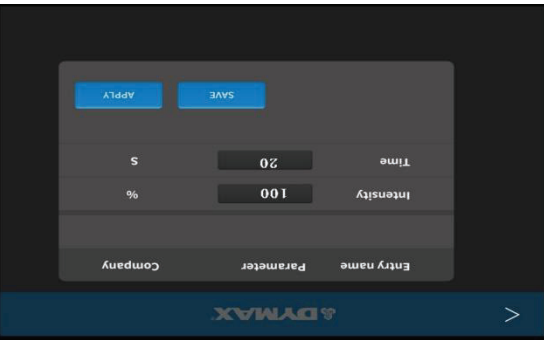

Figure 39. Static Mode, Parameters Window
- 2) Enter the parameter setting window. (Figure 39)